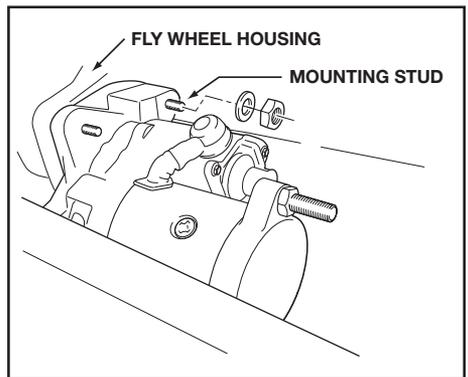

Fig. 2
1. Slide the drive end housing into the fly wheel housing (See Fig. 2).